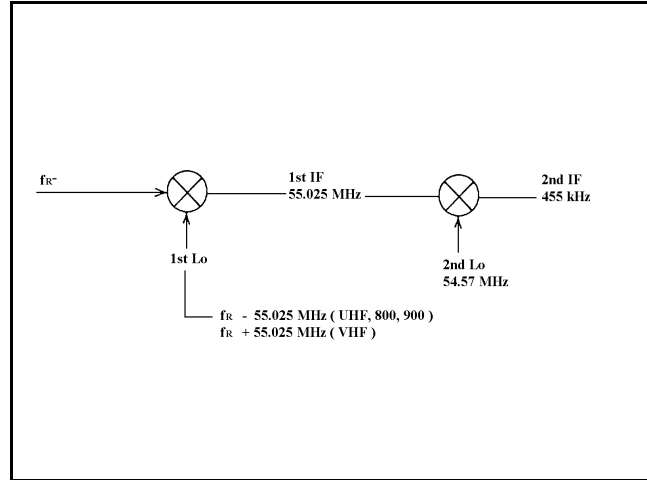
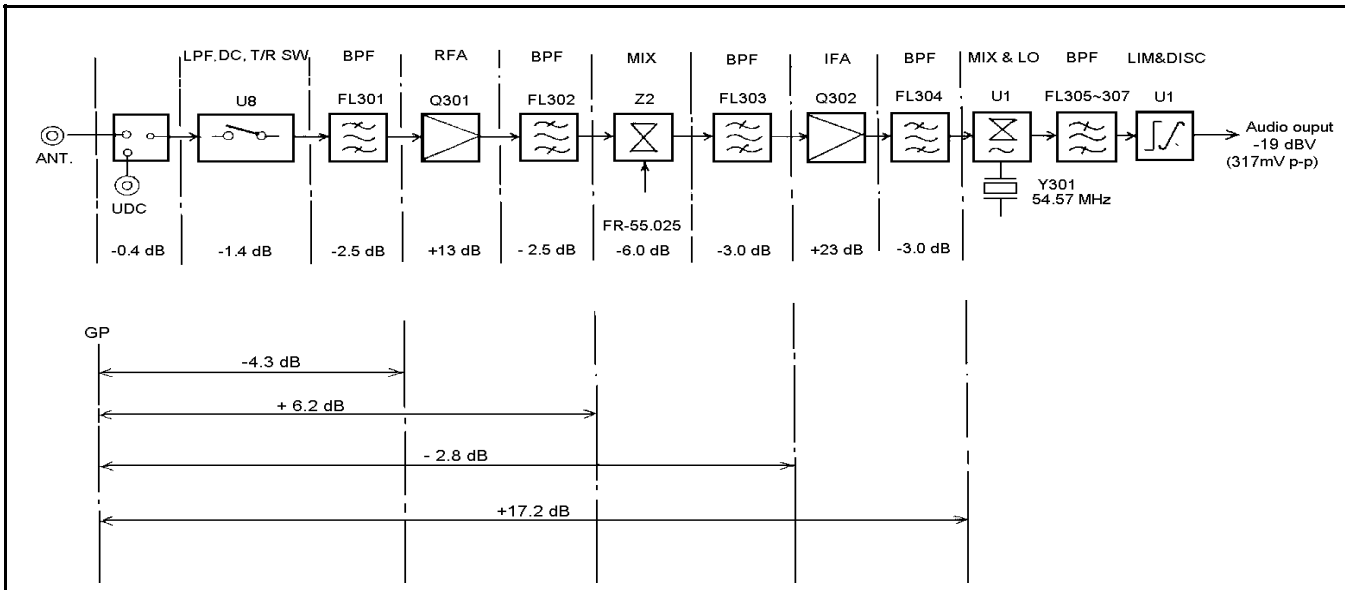

Figure 11 - Frequency Relationship Diagram
Figure 12 - Typical Level Diagram
- a. Level Diagram : A Frequency Relationship Diagram is shown in Figure 11 and a Typical Level Diagram is shown in Figure 12.
- (1) C318 is provided for the adjustment of the second local oscillator.
- (2) When the desired channel frequency with standard modulation is applied to the antenna terminal, adjust C323 for maximum output at RX Audio.
- a. Check the Local Oscillator Frequency. Check the frequency after connecting a frequency counter through a 1 pF capacitor to the collector of Q103. The frequency relation at various stages is shown In Figure 12. If a frequency error is 1.5 PPM or more in the temperature range of 20 to 25°C, adjust the frequency of VCTCXO (Z1). The frequency of VCTCXO is 13.2 MHz.